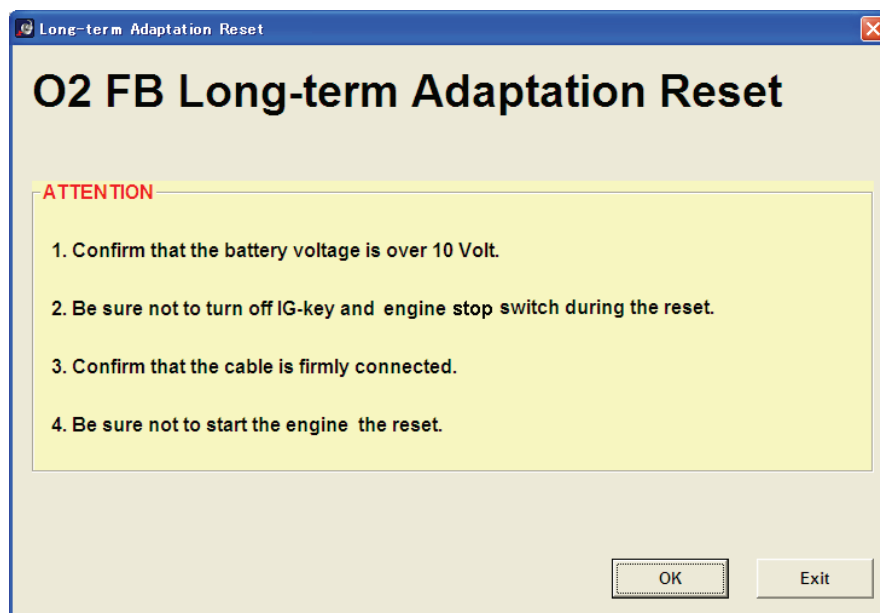

Fig. 9-6-3
- ii) To execute the reset, press the **[OK]** button (Fig. 9-6-3).
To cancel the reset, press the **[Exit]** button (Fig. 9-6-3).